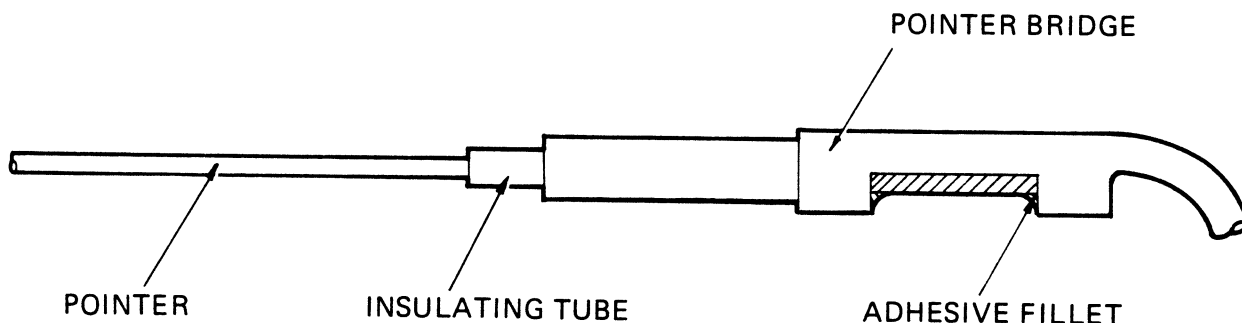

Fig. 5 Replacement of pointer
The height of the pointer shall be $0.5 \text{ mm} \pm 0.1 \text{ mm}$ from the lower edge of the scale, (see figure 5). and not less than 1 mm between positioning of the slotted nuts fitting the meter movement compartment to the carrier plate. Move the pointer across the lateral range of movement to ensure that the distance between pointer and scale, and pointer and recording roller remains constant. (see figure 4).
- 25.3 Remove all traces of adhesive from the outside of the pointer bridge (fig. 5).